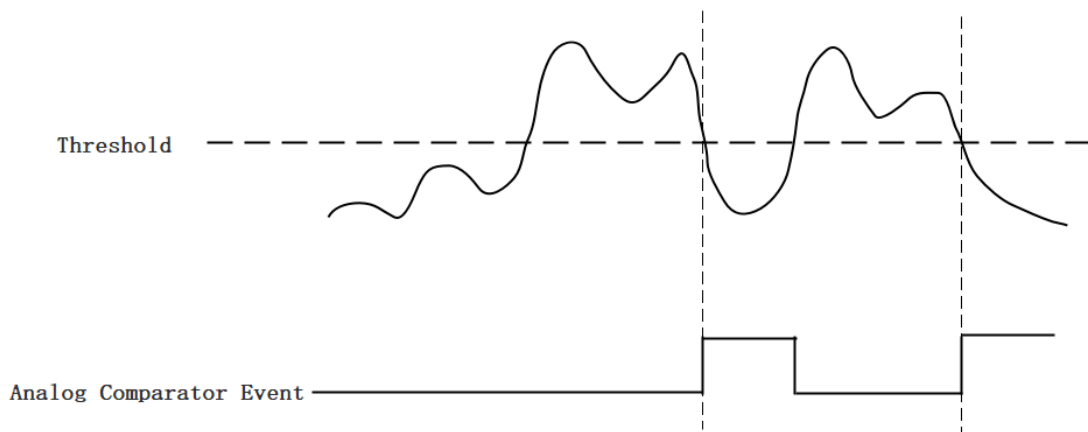

Figure 18 Falling Slope Trigger
*Falling Slope Trigger*: The Edge comparator output is high when the signal goes below the threshold; the output is low when the signal goes above the threshold as shown in Figure 18.